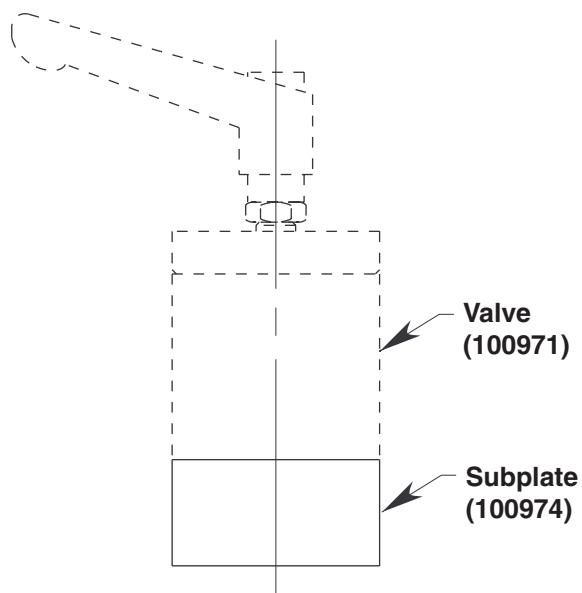

Figure 6
This valve is built without a check valve and so is intended **ONLY** for systems with one valve per hydraulic pressure source. For multiple valve applications, use this valve with check valve subplate #100974 (see Figure 6). This will prevent pressure fluctuations in one system from affecting the other. Ported subplates #100972 and #100973 or manifold #100975 can also be used as appropriate.
1. Check valve #100974 stacks under the #100971 valve and is attached with screws (included with check valve subplate) that extend through the valve and the check valve subplate into the DO3 mounting pattern. See Figures 6 & 7 and Table 1.